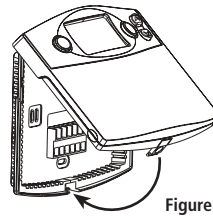

Figure 6
- Insert the bottom tab on the thermostat body into the slot at the bottom of the wallplate. Press the top of the thermostat body to snap it into the wallplate. Refer to Figure 6. (NOTE: *Do not force*